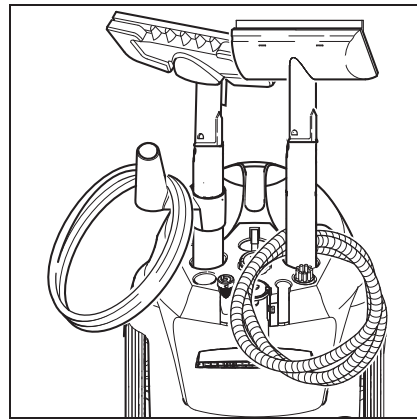

Figure 3
- Put the extension pieces into the large accessory compartments (see Fig. 3).